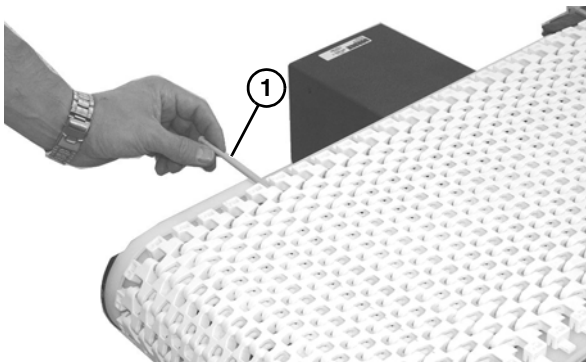

Figure 16
8. Insert the belt rod (**Figure 16, item 1**).